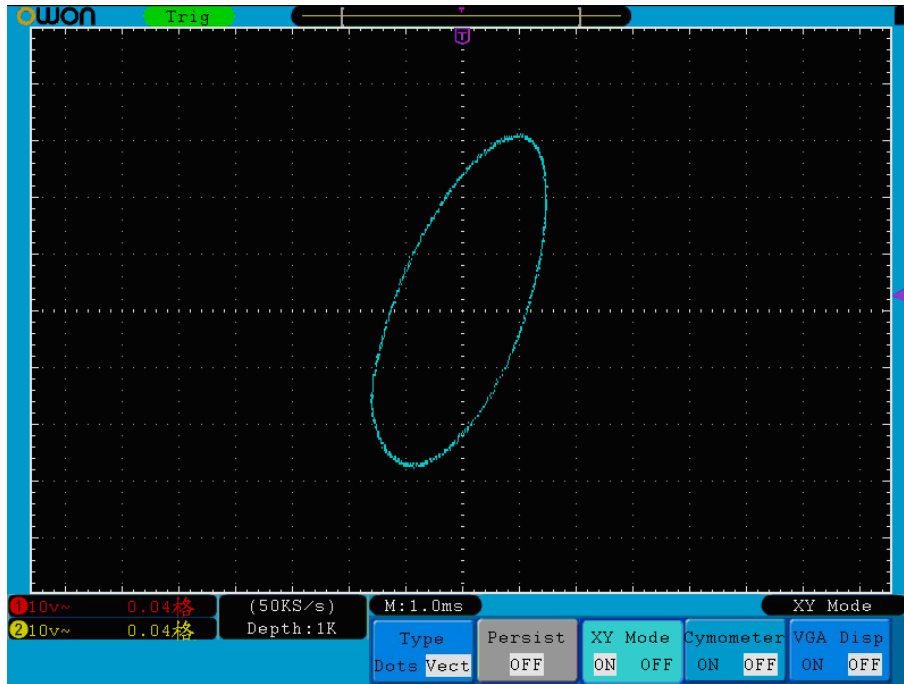

Fig.5-33 XY Display Mode
- Press the **H3** menu selection button to set XY Mode **ON**. The display format is changed to be XY mode (see **Fig.5-33**).